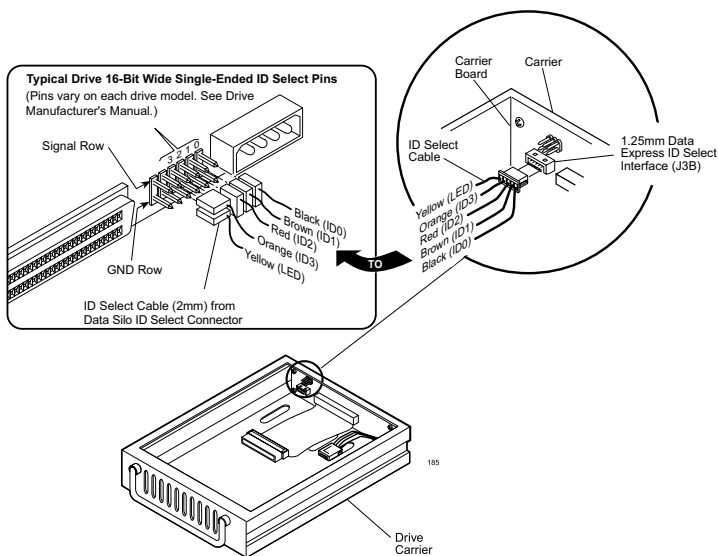

Figure 7: Typical SCSI ID Select Connections (2mm Drive Pins)
5. **SCSI ID Cable (DE100i-SW only):** (Figure 7) The DE100i-SW carrier is supplied with one (1) 5-wire cable. This cable is used for remote ID selection by means of the DE100i-SW Unit ID Select Switch inside the receiving frame. The cable is designed to connect to drives with 2mm ID Select connectors.
3. Install the 5-pin ID select cable into the rear signal distribution board connector. Refer to Figure 7 for a typical 2mm drive pin connection.
4. Carefully insert the drive into the carrier at an angle, cable-end first. **Make sure that none of the cables are pinched.** Lower the front of the drive carefully into place. Fasten the drive into the carrier with four (4) #6-32 Phillips Flat Hd. screws provided.
5. Attach the provided cable cover with two (2) #6-32 Phillips Flat Hd. screws.
Figure 7 illustrates a typical SCSI ID select connection to a drive with 2mm ID select pins. The wires on the wire harness connect to the positive pin (or signal pins) on the disk drive. In some cases, the drive manufacturer will label the signal pins as Pin 1, 3, 5, 7, (instead of 0, 1, 2, 3 as shown in Figure 7 below). Also, in some cases, the even-numbered Pins 2, 4, 6 are used for Ground.